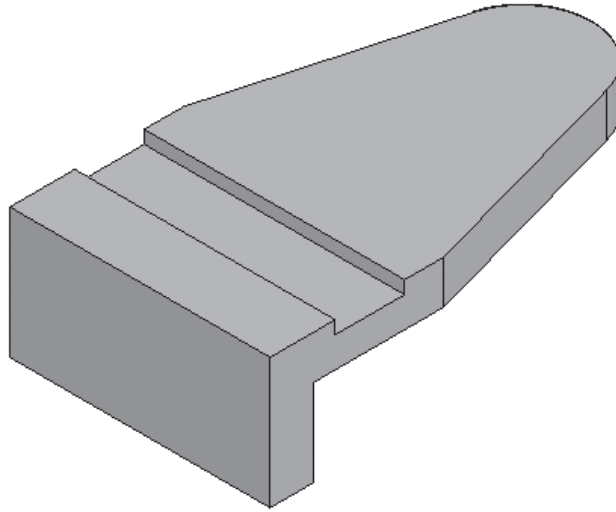

Figure 5-60 Model after creating the second feature
- b. Select the top planar face of the base feature as the sketching plane and then create the second feature, refer to Figure 5-60.
8. Choose **Return** from the ribbon bar to complete the feature. The model, after creating the second feature, is shown in Figure 5-60.